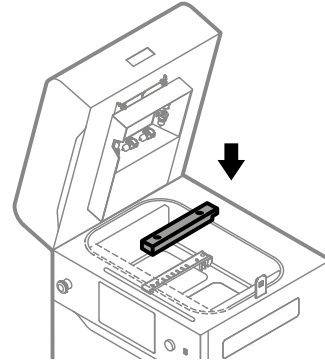

Fig. 13.25 Reinstall the black Recoater cover and tighten the screws.
36. Reinstall the black Recoater cover (fig. 13.25).